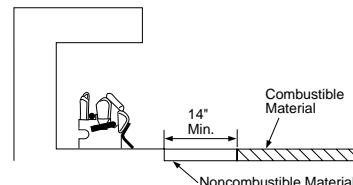

Figure 8 - Minimum Fireplace Clearances If Installed at Floor Level
A. Clearances from the side of the fireplace cabinet to any combustible material and wall should follow diagram in Figure 8. *Example:* The face of a mantel, bookshelf, etc. is made of combustible material and protrudes 3 1/2" from the wall. This combustible material must be 4" from the side of the fireplace cabinet (see Figure 4).
- If installing appliance on the floor level, you must maintain the minimum distance of 14" to combustibles (see Figure 8).